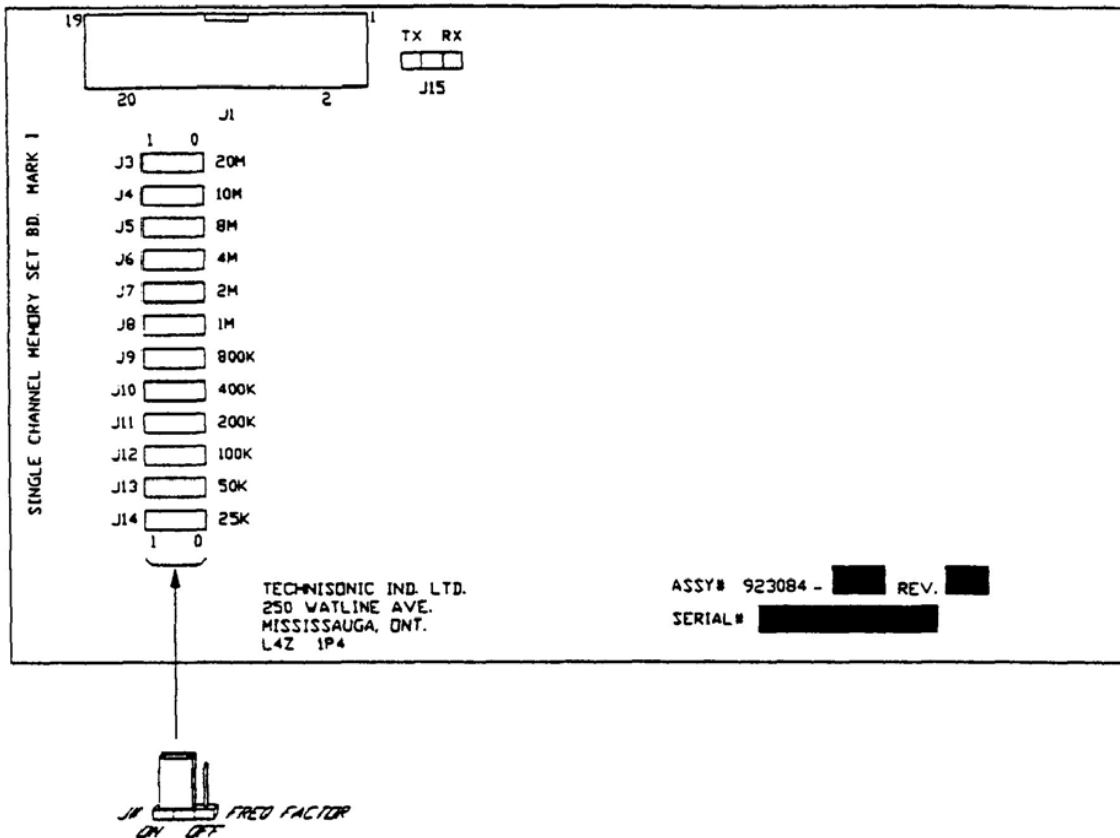

Figure 2. Frequency Set Jumpers
- 1 Determine the operating frequency to be programmed. Jumpers on the Single Channel Memory Set Board (Figure 2) are used to set the frequency by separating it into its MHz and kHz components.